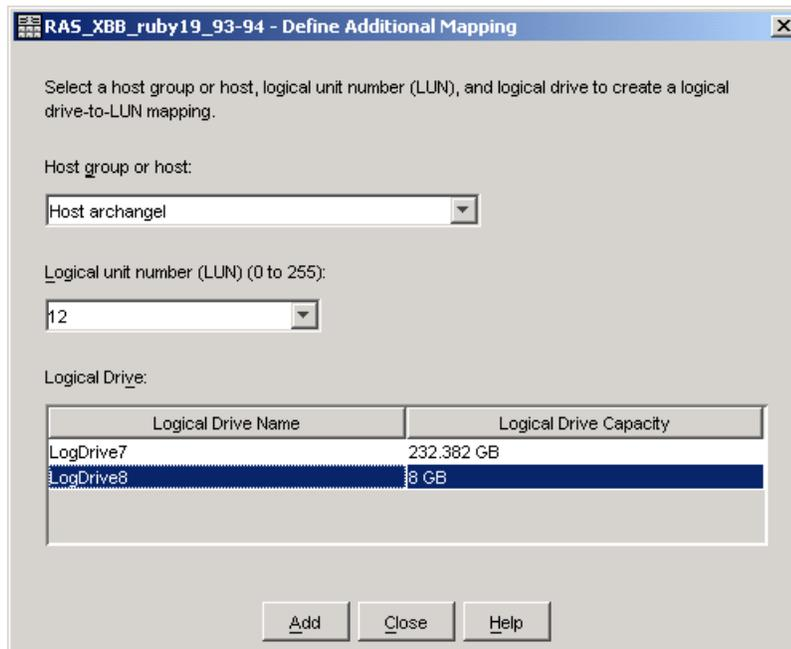

Figure 5-73 Define Additional Mapping
2. In the Define Additional Mapping window, select the logical drive that you want to map to this host group or host and assign the correct LUN number (Figure 5-73).